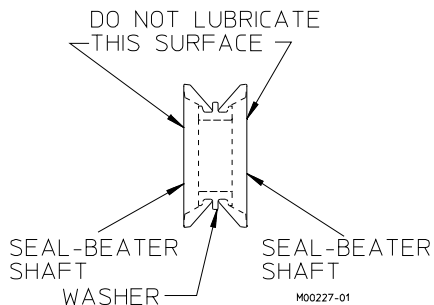

Figure 9-1 Lubricate shaft seal
2. To assemble the shaft seal, install the cup seals on the plastic washer as shown in figure 9-1.